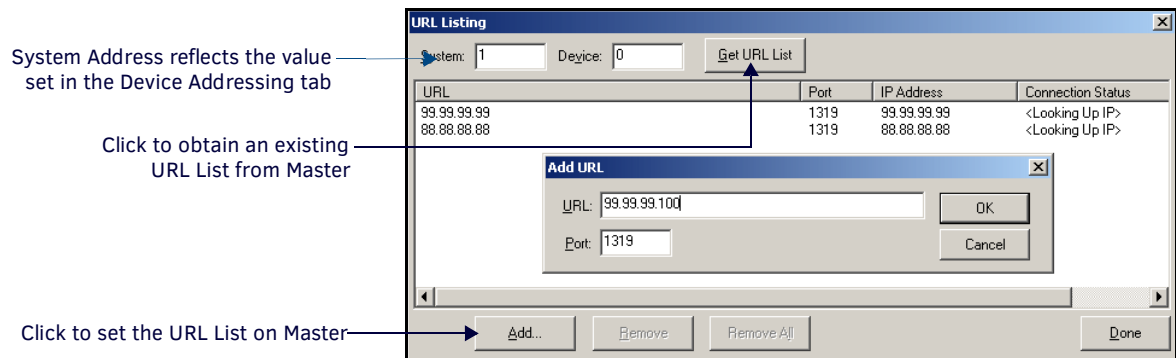

FIG. 84 URL List dialog
6. Select **Diagnostics > URL Listing** from the Main menu (FIG. 84).